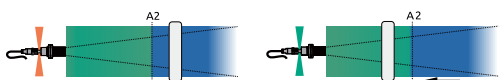

Figure 17 - Single trigger on approaching object
- The output signal switches when the object approach distance (S) is smaller than the adjustment distance (A2). The operating principle is shown in Figure 17. A user-wide setting must be implemented for operation: $A2 = S, A1 \rightarrow \infty$